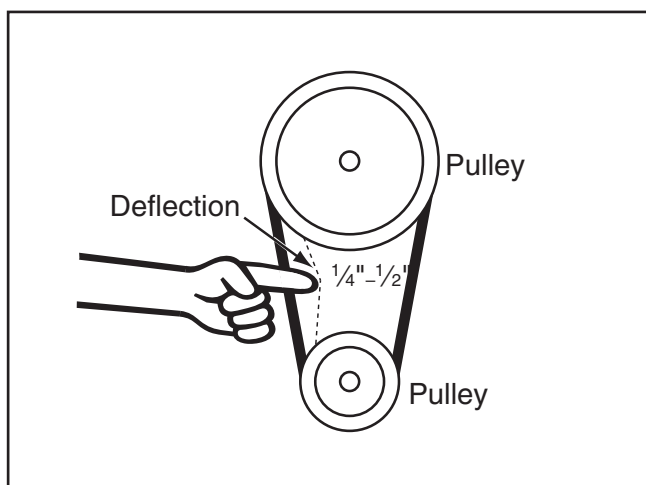

Figure 48. Checking V-belt tension.
7. Using the belt tension knob, adjust the V-belt tension so there is approximately $\frac{1}{4}$ "– $\frac{1}{2}$ " deflection when the V-belts are pushed with moderate pressure as shown in **Figure 48**.